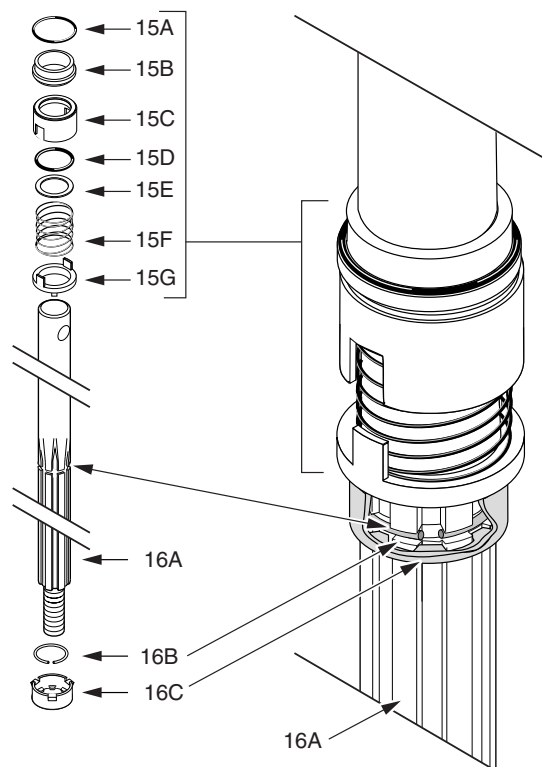

FIGURE 13
3. The shaft seal consists of an O-Ring (Key No. 15A), the stationary half of the mechanical seal (Key No. 15B), the rotating half of the mechanical seal (Key No. 15C), a second O-Ring (Key No. 15D - inside No. 15C), a flat washer (Key No. 15E), a spring (Key No. 15F), and a mechanical drive ring (Key No. 15G), in that order, see Figure 13, below. Turn the pump head upside down and remove the stationary part of the seal (Key No. 15B) from the seal seat in the base of the motor bracket.